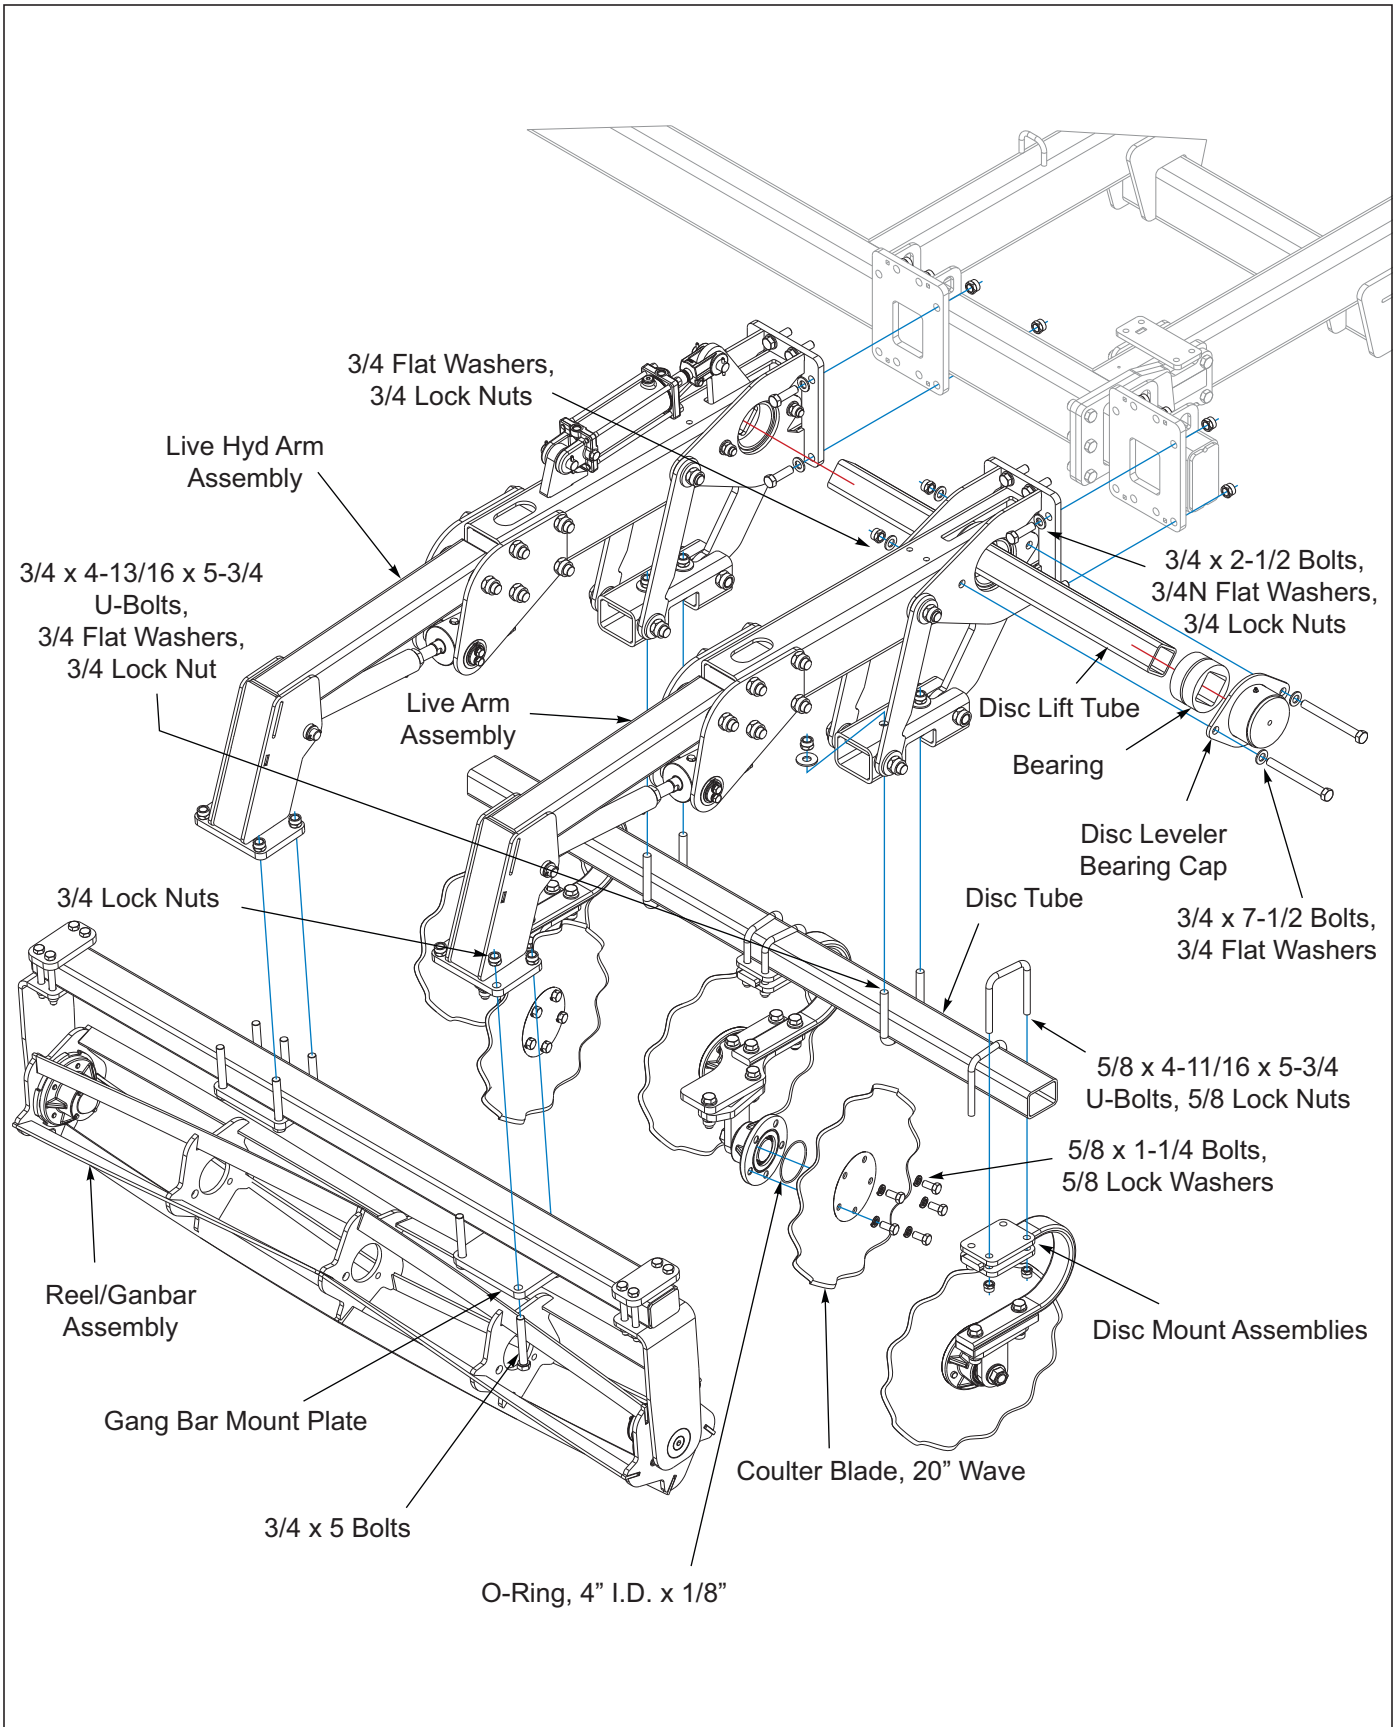

Figure 3-39: Disc Lev/Hyd Installation
1. Starting at the rear of the center frame, attach the LT live arm assembly to left and right side using 3/4 x 2-1/2 bolts, 3/4N flat washers and 3/4 lock nuts. See Figure 3-39 and See Figure 2-28 through See Figure 2-31 for arm placement.
14. Install fittings to pressure reducing valve and manifolds as shown See Figure 3-39.